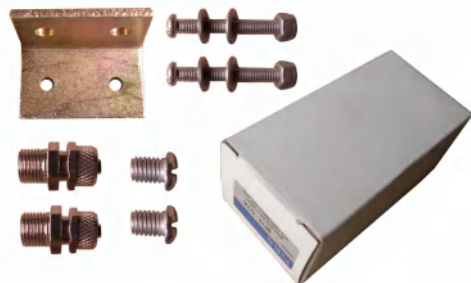

Fig.12
8. Check the parts of the parts bag according to the parts bag list (See Fig. 12).